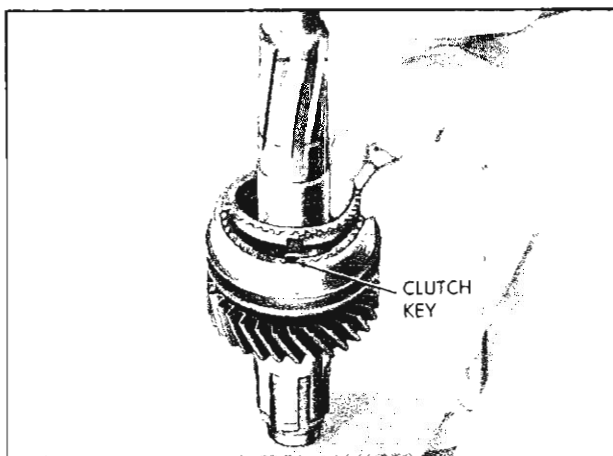

Fig. 17M—Installing Synchronizing Ring
2. Install 1-2 Synchronizer clutch assembly to mainshaft (sliding clutch sleeve taper toward the rear, hub to the front); together with a synchronizing ring on either side so their keyways line up with the clutch keys (fig. 17M). Install smaller of two synchronizer retaining snap rings to mainshaft with ends of snap ring behind spline teeth.